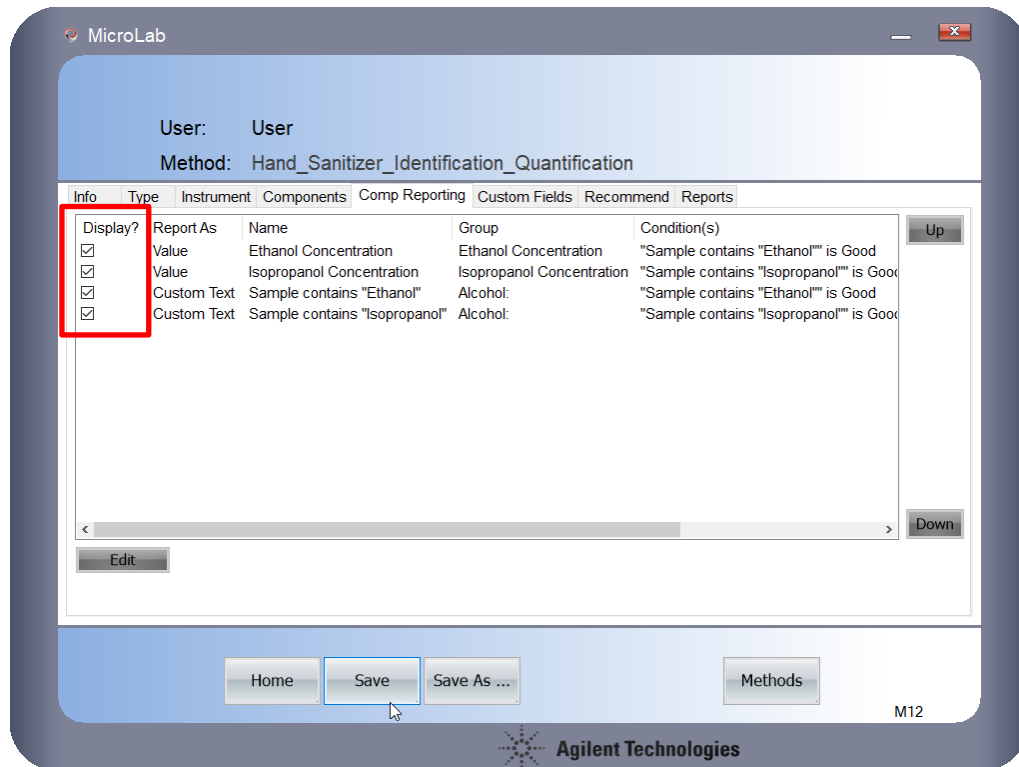

Figure 28. Editing the isopropanol identification reporting parameters
- On the “Comp Reporting” tab ensure that the tick box in the “Display?” column is active for all components. See Figure 28.